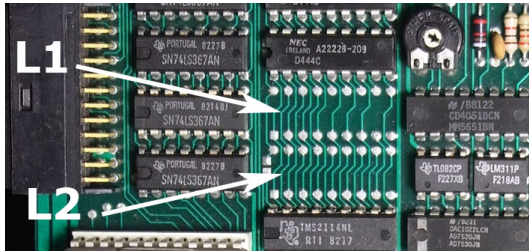

Figure 16: location of L1 and L2
- The hole locations are empty : Put on the two sockets (DIP 18) in the hole locations L1 and L2 as shown on Figures 16 and 6. Be careful : the components must be on the right side of the board and the keyed must be well positioned as indicated by the arrows L1 and L2 ! Solder the sockets.